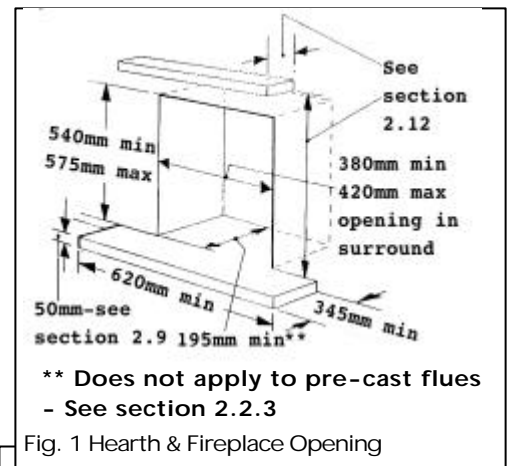

Fig. 1 Hearth & Fireplace Opening
2.2.1 To a fireplace complete with surround and hearth as shown in figure 1 and complying with BS1251. The required fireplace, hearth, debris catchment area and clearance dimensions are shown in figure 1.
2.2.4 To a builder's opening within the dimensions shown in figure 1.